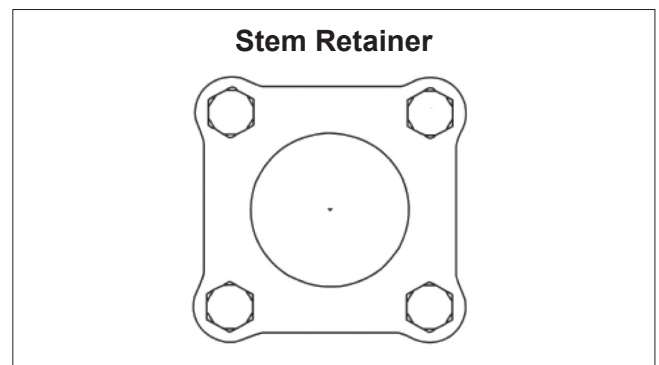

Figure 8. Bolt Tightening Sequence
14. Install stem retainer subassembly, stem retainer seal (66), and stem retainer cap screws (13). Lubricate the threads and under the head of stem retainer cap screws with Never-Seez® or equivalent. Tighten according to bolt pattern shown in (**Figure 8**) and to values in (**Table 1**).